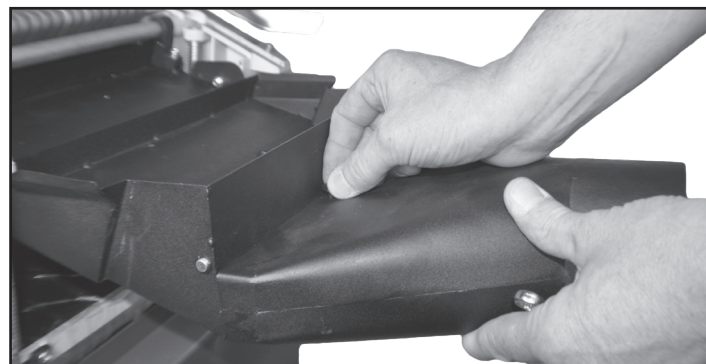
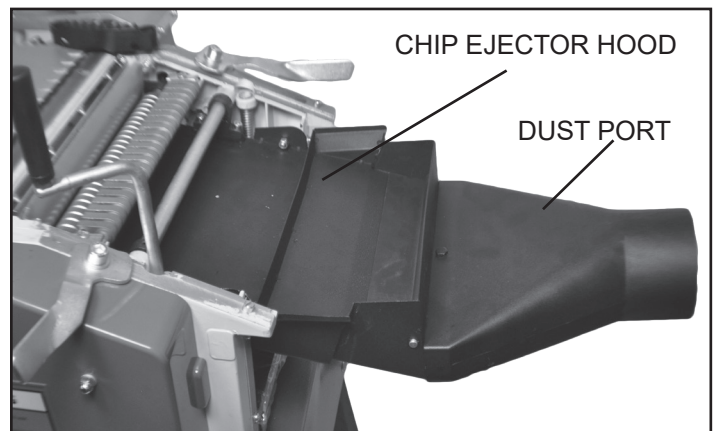

FIG. 10
FIG. 11
1. At the opposite, outfeed end of the machine, locate the Chip Ejector Hood (#194). FIG. 10. Attach the Dust Port (#195) to the outlet with the two hex Bolts provided. FIG. 11